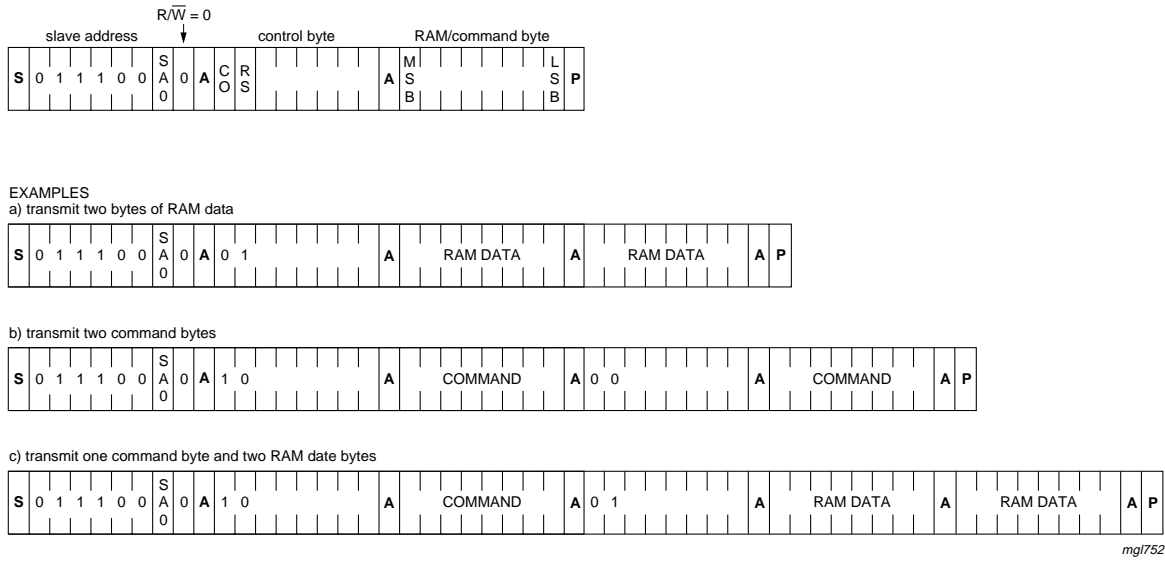

Fig 18. I²C-bus protocol
The I²C-bus protocol is shown in Figure 18. The sequence is initiated with a START condition (S) from the I²C-bus master which is followed by one of the available PCF8534A slave addresses. All PCF8534As with the same SA0 level acknowledge in parallel to the slave address. All PCF8534As with the alternative SA0 level ignore the whole I²C-bus transfer.